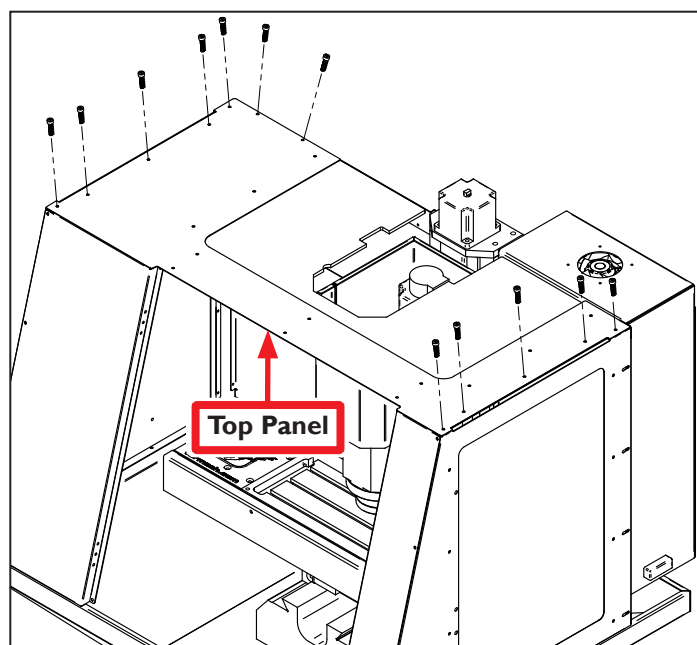

Figure 13
19. Using 12 10-32 x 3/8" Phillips Screws, attach Top Panel Assembly to enclosure as shown in **Figure 13**.